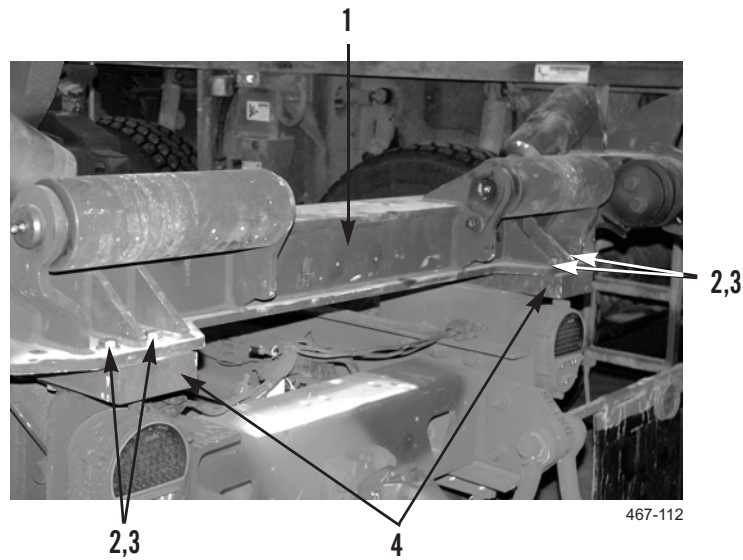

Figure 10. Rear Slider Assembly.
2. Remove eight bolts (Figure 10, Item 2) and washers (Figure 10, Item 3) from rear slider assembly (Figure 10, Item 1).
3. Use lifting device to remove rear slider assembly (Figure 10, Item 1) from mounting blocks (Figure 10, Item 4) and place on flat work surface.
4. Remove lifting device and sling from rear slider assembly (Figure 10, Item 1).